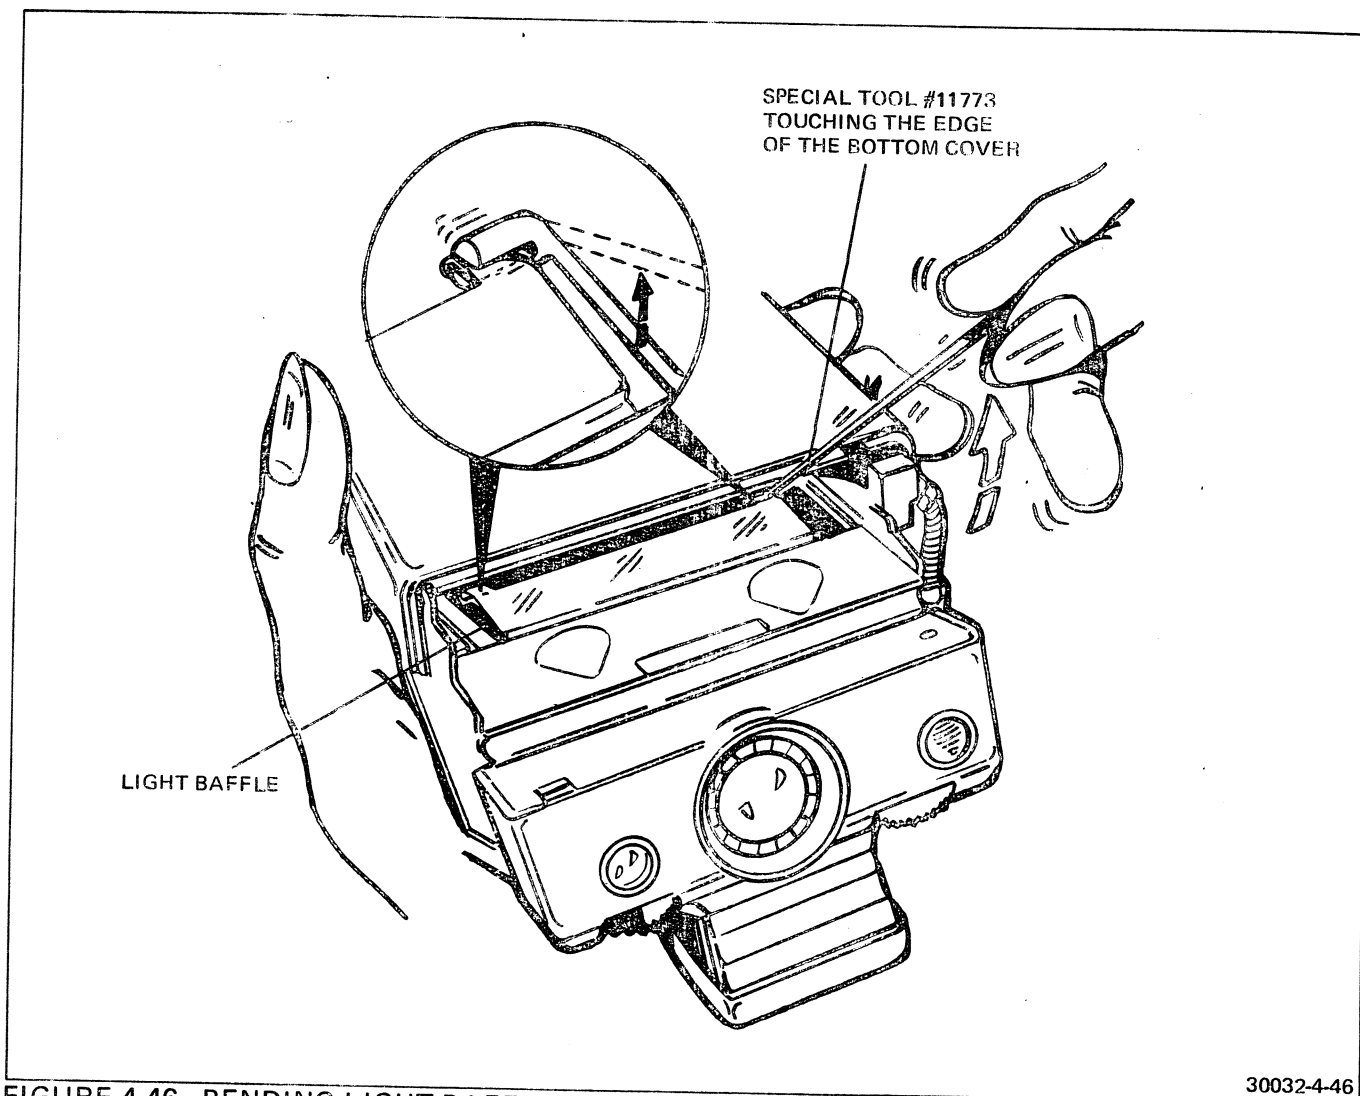

FIGURE 4-46 BENDING LIGHT BAFFLE EARS
5. Keep the long handle of the tool handle aligned with the side of the baffle and slide the end to the inside of the camera, thereby catching the baffle in the slot (Figure 4-46).